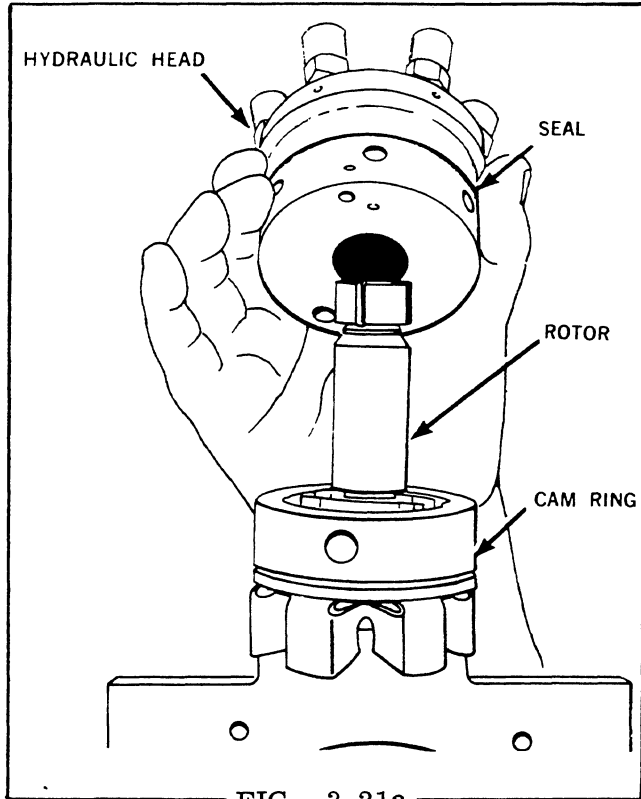
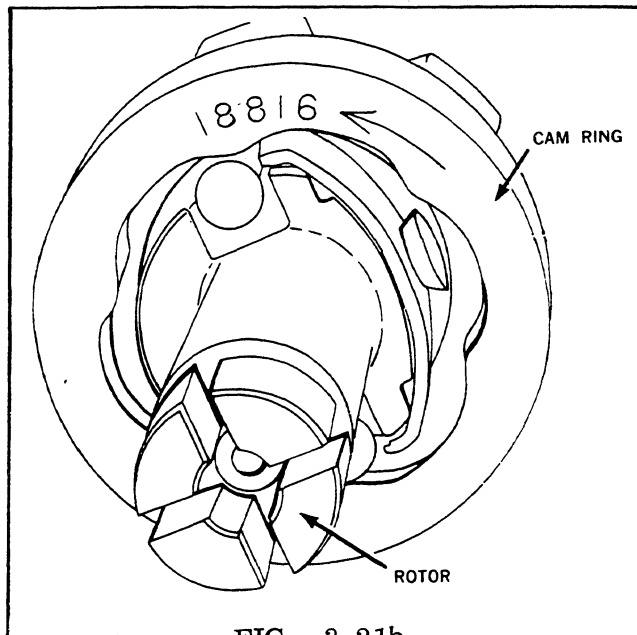

FIG. 3.21a
FIG. 3.21b
**STEP 21** Lift the head from the rotor (Fig. 3.21a). Lift the cam ring from the rotor (Fig. 3.21b).